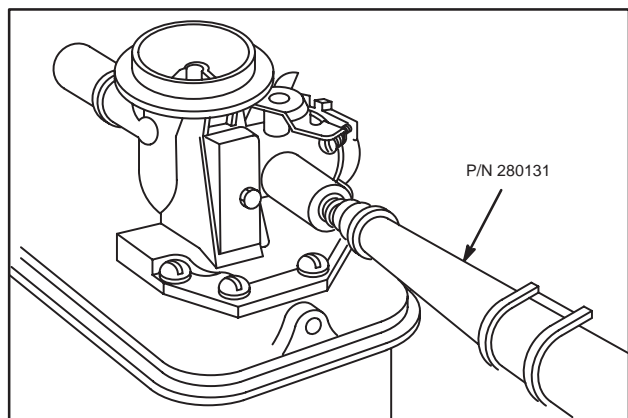

Fig. 248 – ASSEMBLING PRESSED-IN VALVE
- Oil fill tube, Part #280131 will help firmly seat valve assembly, Fig. 248.